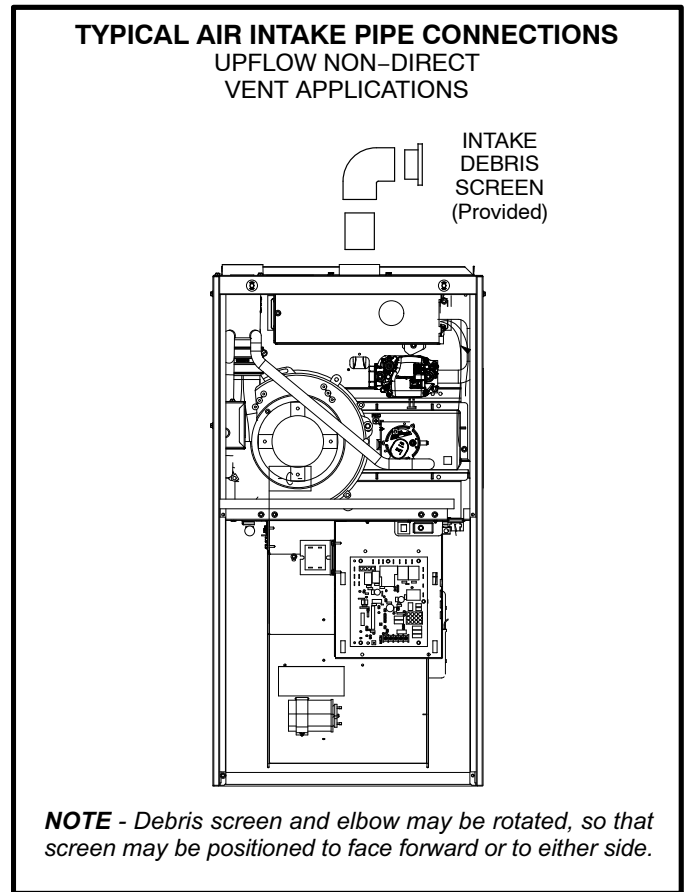

FIGURE 28
- 1 - Use field-provided materials and the factory-provided air intake screen to route the intake piping as shown in figure 28 or 29. Maintain a minimum clearance of 3" (76mm) around the air intake opening. The air intake opening (with the protective screen) should always be directed forward or to either side in the upflow position, and either straight out or downward in the horizontal position.